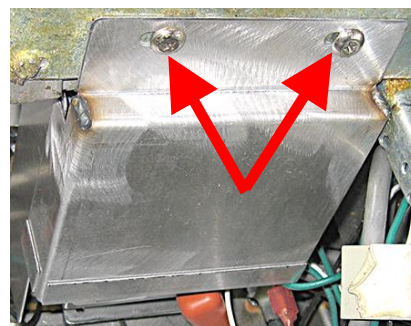

Figure 81
80. Reattach module covers (see Figure 81).